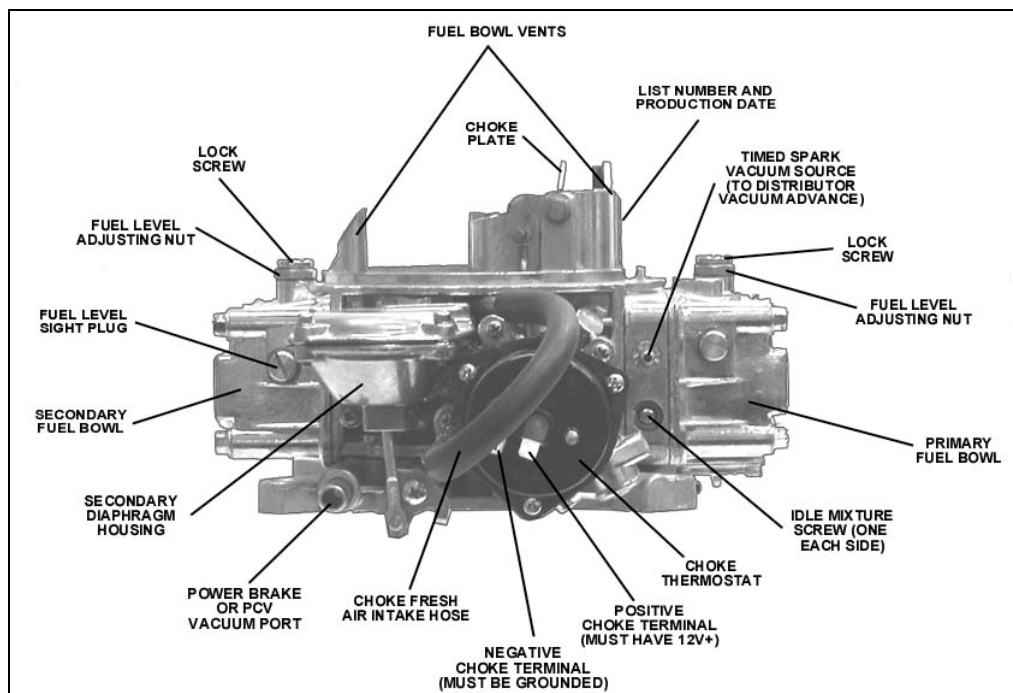
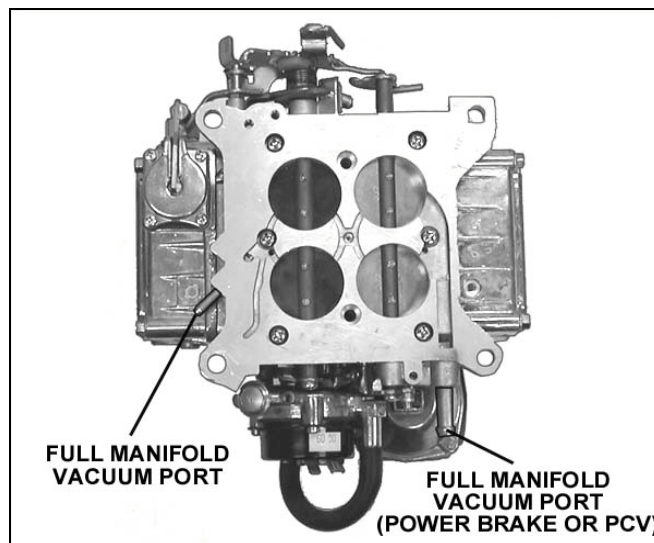

Figure 2a. (0-80457S shown)
Figure 3
6. Reconnect the appropriate vacuum hoses to the carburetor, noting the correct fitting from Figure 2a and Figure 3. Replace any cracked or dry rotted hoses at this time to prevent any vacuum leaks.
8. Connect the power brake and/or PCV hose to the fitting as shown in Figure 3.
1. Attach the vacuum gauge to a manifold vacuum port on the throttle body (Figure 3).